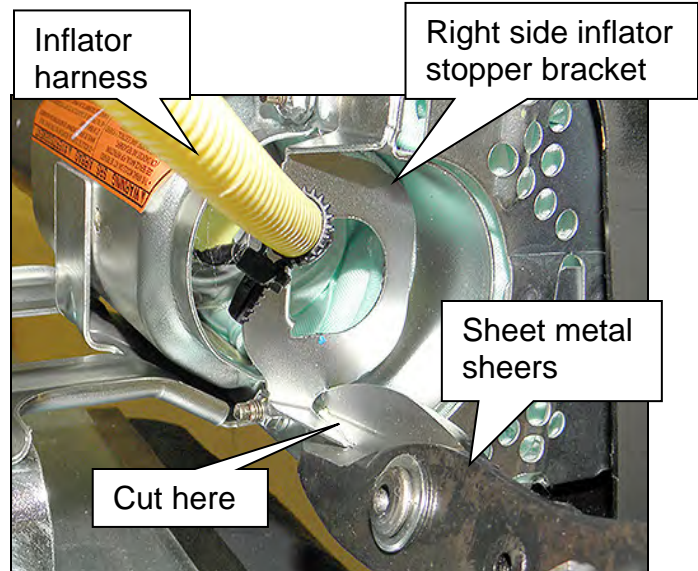
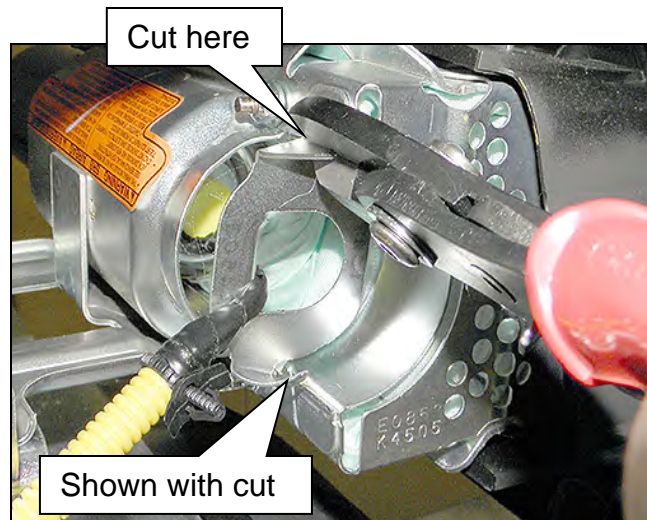

Figure S9
Figure S10
- a. Cut bottom (Figure S9) and then the top (Figure S10) horizontal attachments flush with the module.
- Bottom side shown with cut in Figure S10.